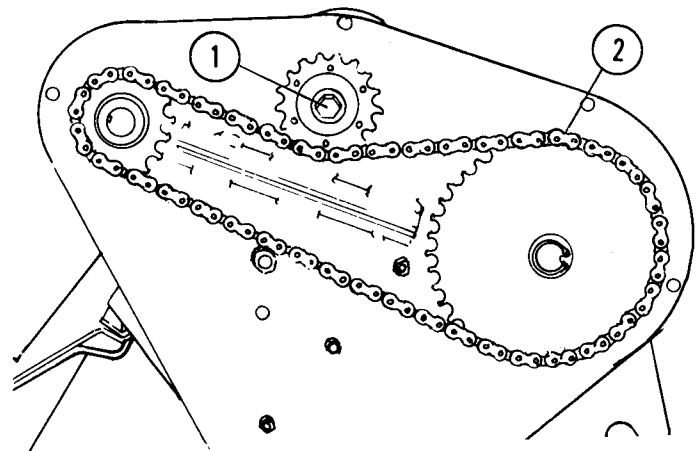

Fig. 14 — Outer Drive Chain
2. Loosen nut on idler sprocket shaft to slacken chain, Figure 14.
3. Remove drive chain master link and remove chain, Figure 14.